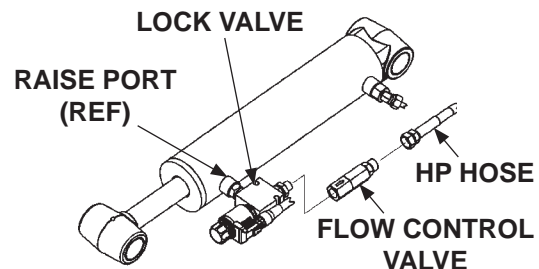

FIG. 38-3
6. Remove, check, clean, and reinstall flow control valve on the cylinder between high pressure hose and lock valve (**FIG. 38-3**). Replace flow control valve if necessary.